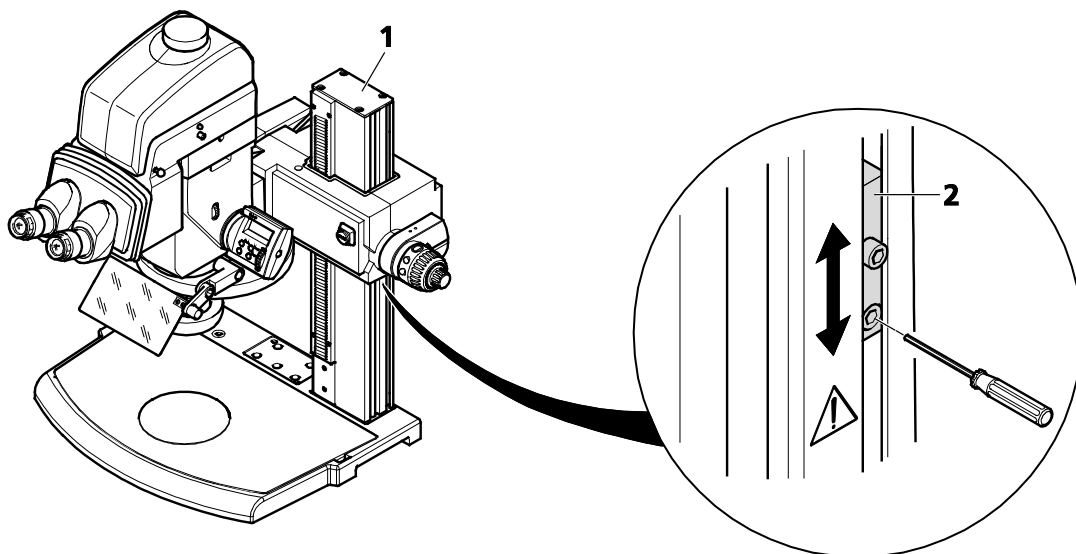

Fig. 29 Adjusting the range of travel
After installing and switching on for the first time the lower limit switch (Fig. 29/2) in the column (Fig. 29/1) of the focusing drive must be adjusted from the delivery position to a working position in order to prevent collision between the objective and the stage/specimen.
- Release the lower limit switch (Fig. 29/2) using the ball-head screwdriver.